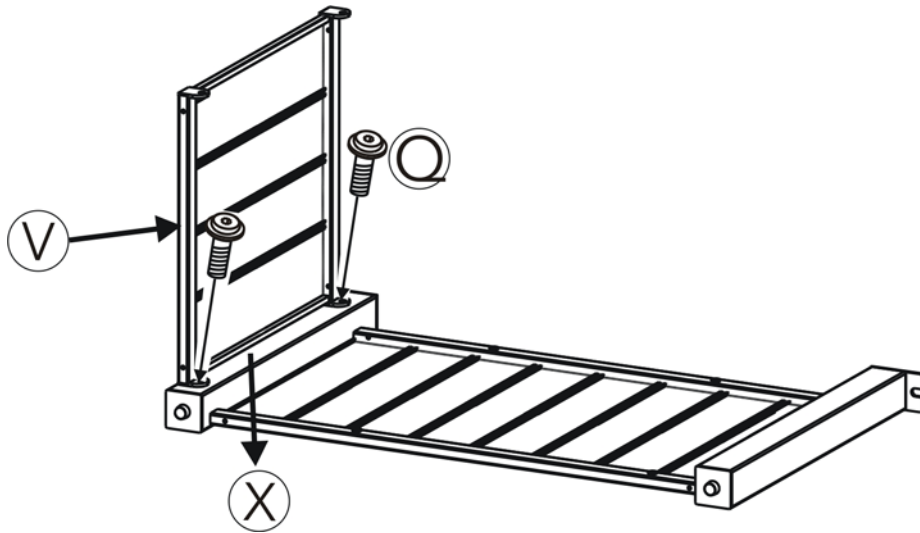

Figure 3
2. Attach the back panel(V) to the right panel(X) by using two 1/4" x20 mm bolts(Q) in Figure 3. Guide the bolts through the holes in the back panel(V), into the pre-drilled holes in the right panel(X). Hand tighten only 2-3 turns.